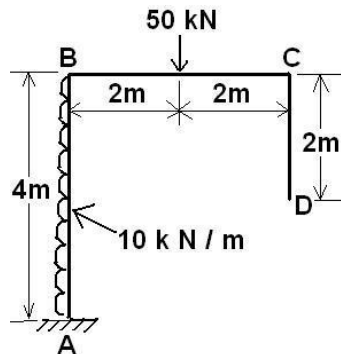

Fig. 3
- Q.5 (a) A beam ABC has spans AB= 3m BC = 5 m. End A is fixed and end C is hinged. Span AB carries udl of 2 kN/m. Analyze the beam using flexibility system approach. (07)
(b) Find horizontal deflection at point D for the frame shown in figure. 3 using any method. Take $EI=20000 \text{ kN.m}^2$. (07)
- Q.5 (a) A fixed beam ABC of length 5 m is fixed at A and C. Spans AB= 4m BC = 3 m. It carries a point load of 250 kN at B. Analyze the beam using stiffness system approach. (07)
(b) Find horizontal deflection at point C for the frame shown in figure 3 using any method. Take $EI=20000 \text{ kN.m}^2$. (07)